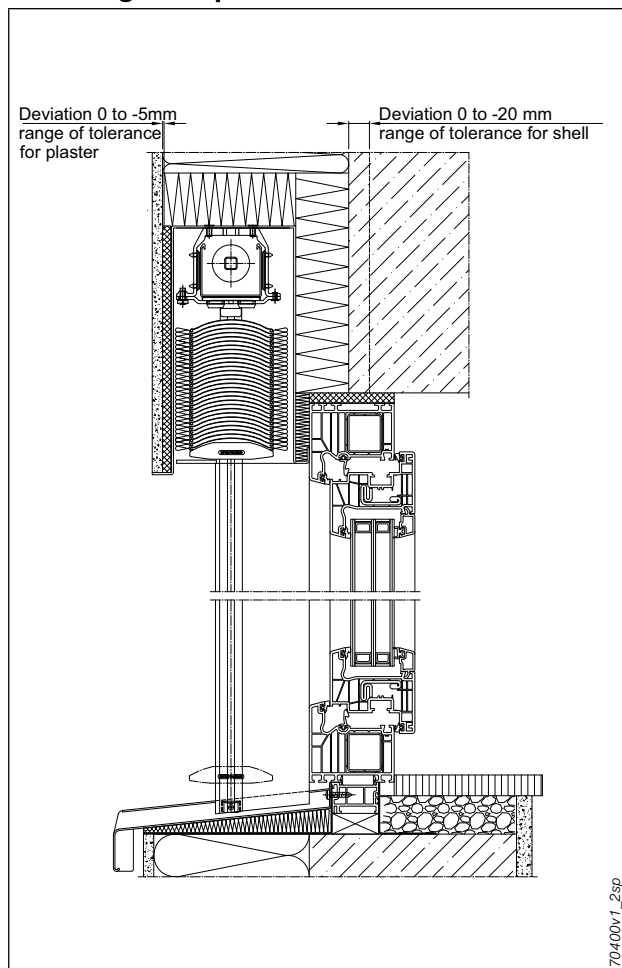

fig. 356: Mounting example of lintel insulation, back insulation (Dh) and top insulation (Do)
**Note:** The building tolerances must be observed (see fig. 356 on page 328).